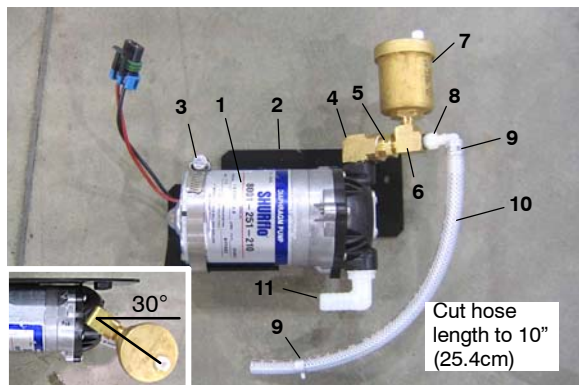
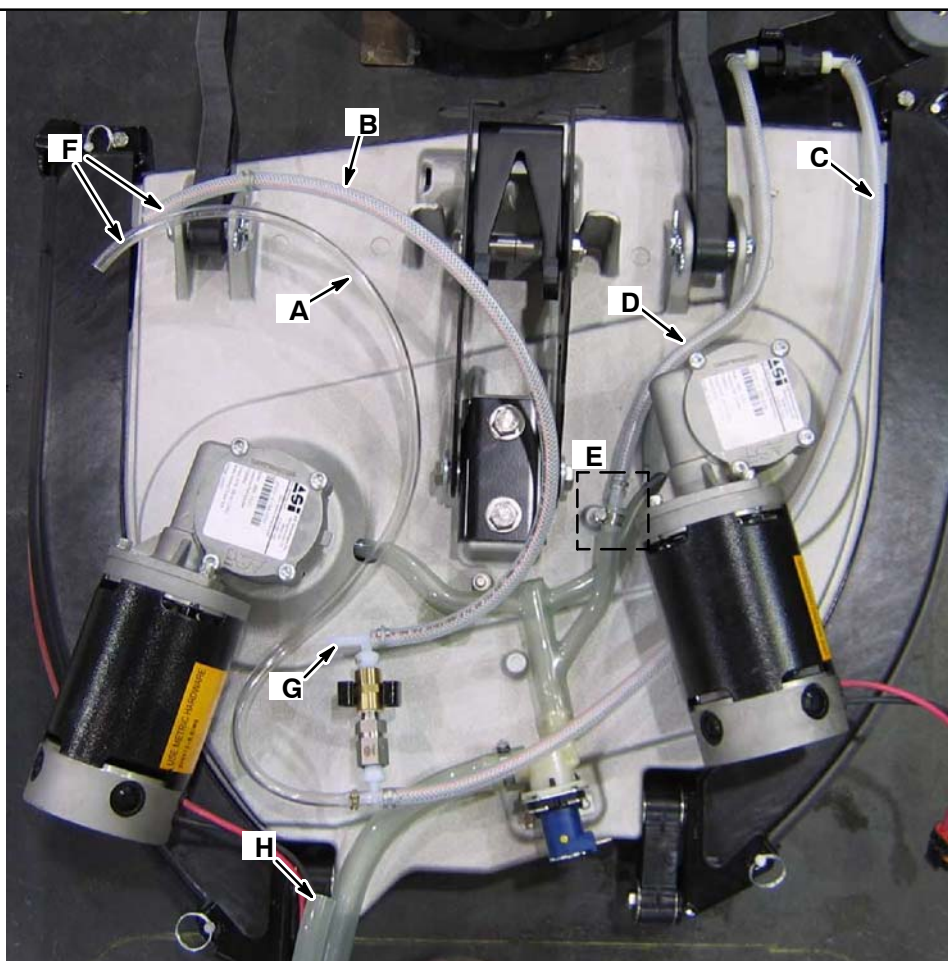
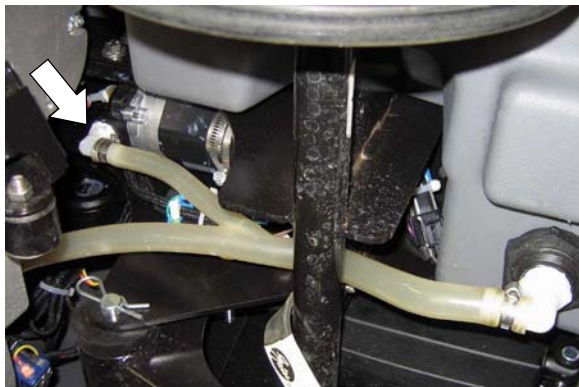

Fig. 16
Fig. 28
Fig. 29
2. Assemble the pump assembly as shown (Figure 16). Use a thread sealer tape on all fittings.
Pump Assembly Parts List (Figure 16)
10. Assemble the kit hoses on the scrubhead as shown (Figure 28).
12. Connect the *ec-H2O* pump hose (Figure 16) to fitting (G) (Figure 28). Use clamp [p/n 603654].
13. Connect the solution tank hose (H) (Figure 28) to the *ec-H2O* pump (Figure 29).